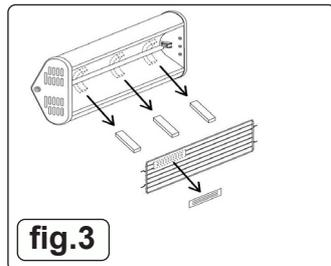

fig.3
**NOTE:** Remove the red plastic foam from the light tube and peel the sticker off the protective cover (fig.3).